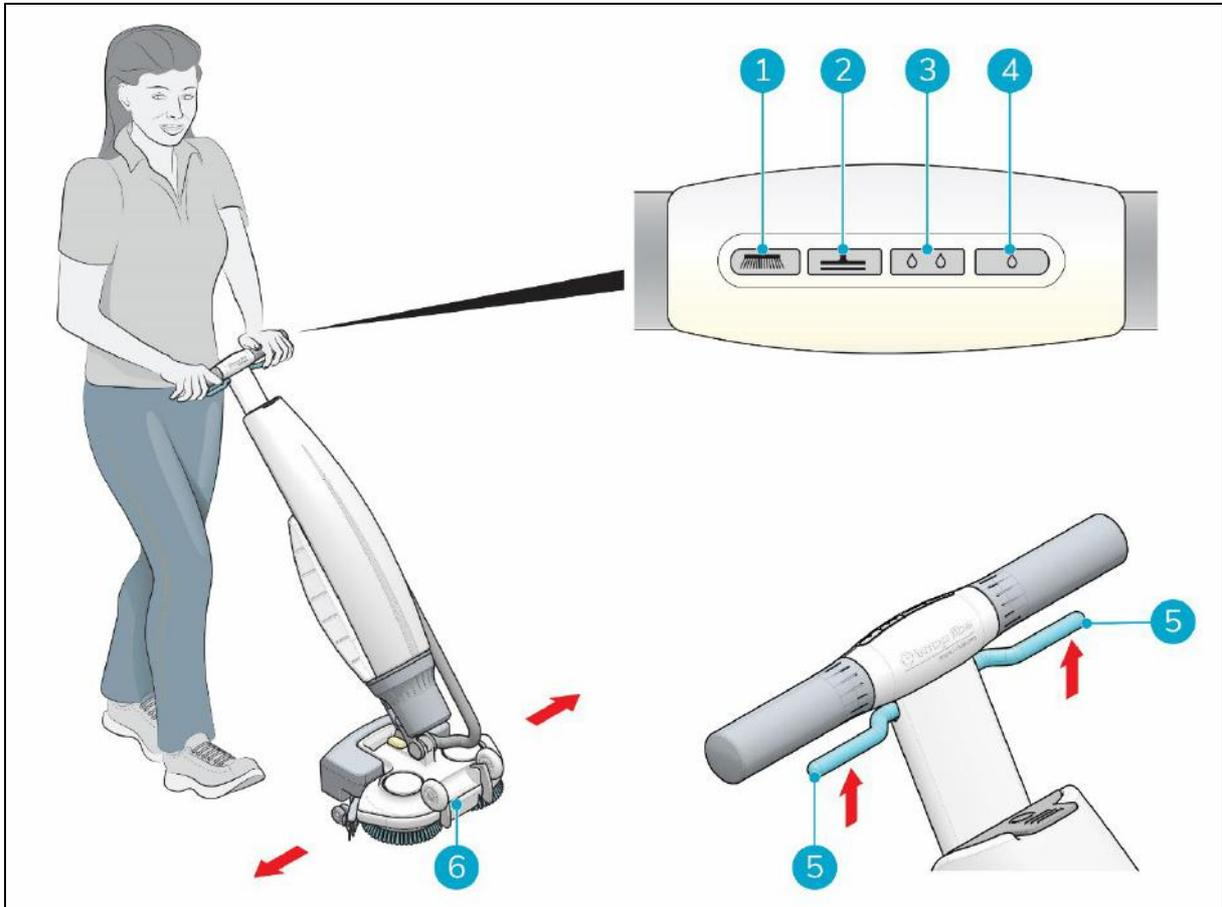

Figure 17
5. Stand behind the imop® Lite. Choose your cleaning mode via the buttons on the control panel (Figure 17, pos 1 to 4). You can select the options independently or combined.
7. Squeeze the trigger on the handle (Figure 17, pos 5). This will also start the imop Lite
10. Steer by gently turning the handle left or right to move the scrub deck (Figure 17, pos 6).
11. Releasing the trigger (Figure 17, pos 5) will immediately stop the imop Lite. The vacuum motor will stop after 3 seconds.